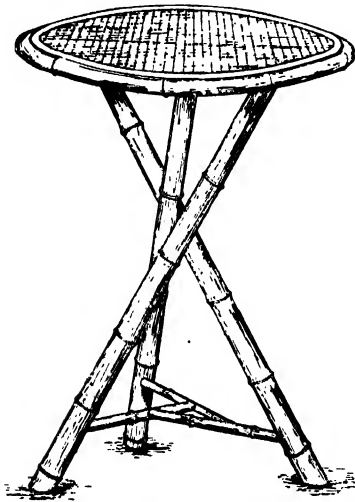

Fig. 46.—Bamboo Gipsy Table.
**Some Examples of Bamboo Work.**—A range of designs for furniture must be looked for elsewhere, but to illustrate the application of the bends and joints already described two pieces of furniture of quite a simple nature will be discussed. Fig. 46 shows a design for a bamboo gipsy table. These tables, which may be round, hexagonal, or octagonal in shape, are generally made with a top of 1 ft. 6 in. diameter. The average height of the finished table is 2 ft. 4 in. For the legs, cut three pieces of  $1\frac{1}{2}$ -in. diameter bamboo 2 ft. 10 in. long. Holes must be bored in these with a  $\frac{3}{8}$ -in. bit 6 in. from the heaviest end. The grec (see Fig. 47) is composed of three pieces of  $\frac{3}{8}$ -in. bamboo 11 in. long, which are jointed